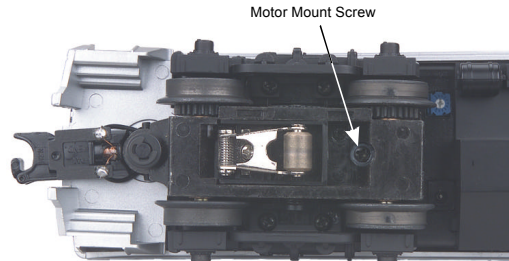

Figure 4
2. Once the cab is removed, remove the trucks by unscrewing the black Phillips motor mount screw located on the underside of the drive trucks (see Fig. 4).